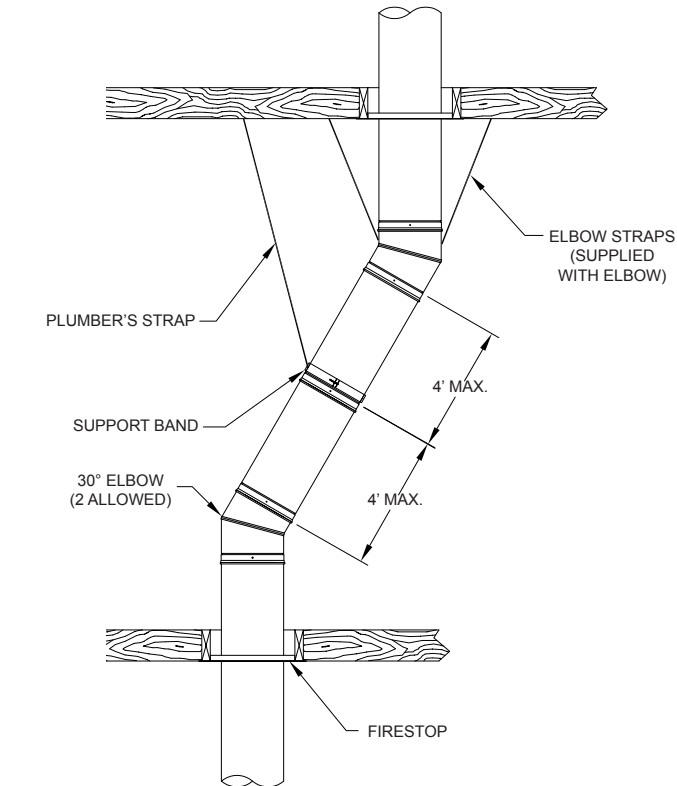
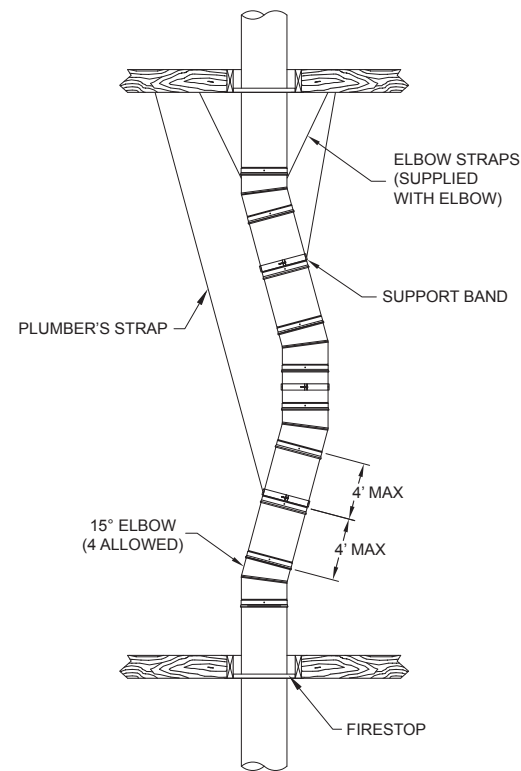
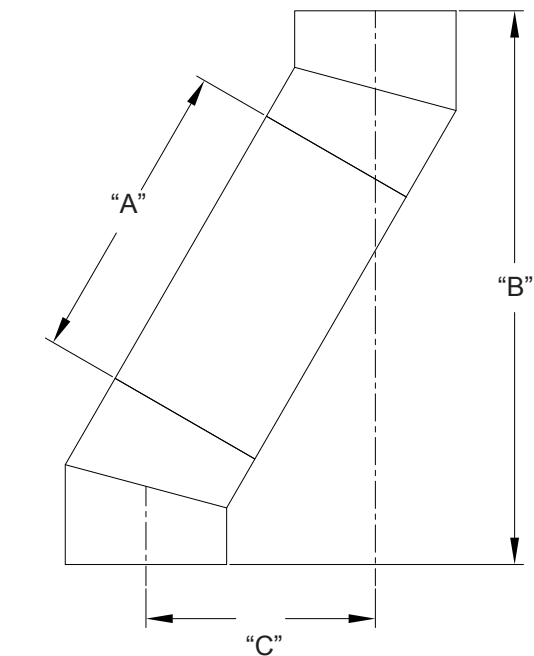

FIG. 12A
FIG. 12B
FIG. 13
**Elbow Installation:** 15° and 30° elbows are provided to allow chimneys to avoid framing members or roof peaks. A maximum of 30° from vertical is allowed and a total of two 30° elbows (**FIG. 12A**) or four 15° elbows (**FIG.12B**) for each chimney installation. A 2" clearance to combustibles must be maintained. If more than one (1) offset is needed, a mechanical exhaust fan should be used. The mechanical fan company would determine the viability of performance.
Attach the elbow to the chimney pipe, support or other part. Using the offset chart, add chimney sections between elbows, total pipe length not to exceed 96 inches. A Support Band or plumbers strap is required for every 4 foot interval between elbows to support the load as shown in **FIG. 12A & FIG. 12B**. Attach the upper elbow to bring the chimney back to vertical. See **TABLE 2** and **FIG. 13** for offset combinations.